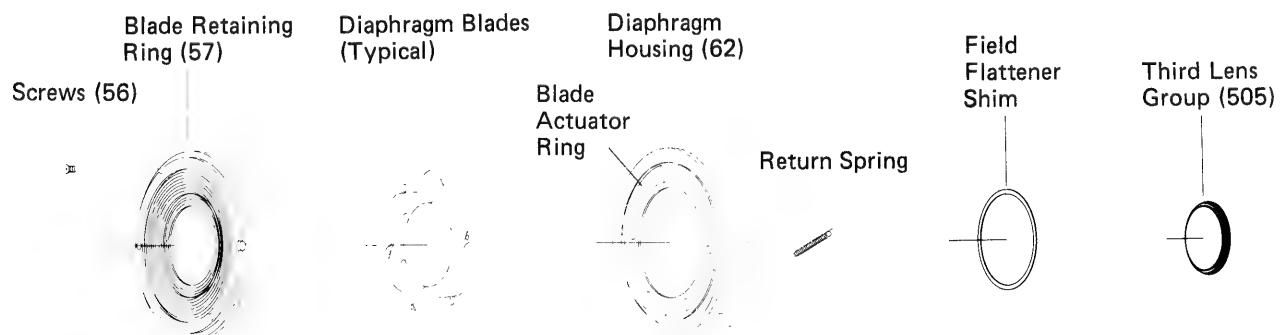

Figure 3-7. Typical Diaphragm Housing Assembly
3.2.7 Disassembly of Diaphragm Housing Assembly (See Figure 3-7 and appropriate exploded view in Section 4.)